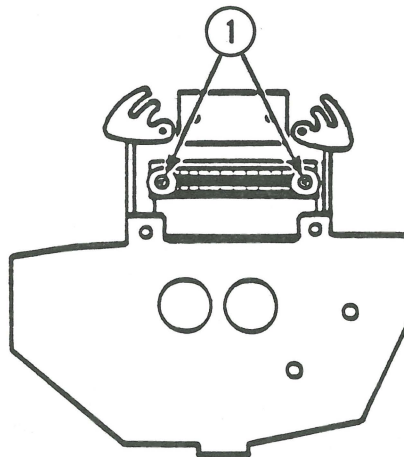

FIGURE 20
6. Remove the two screws (Figure 20, #1) holding the print head connector.